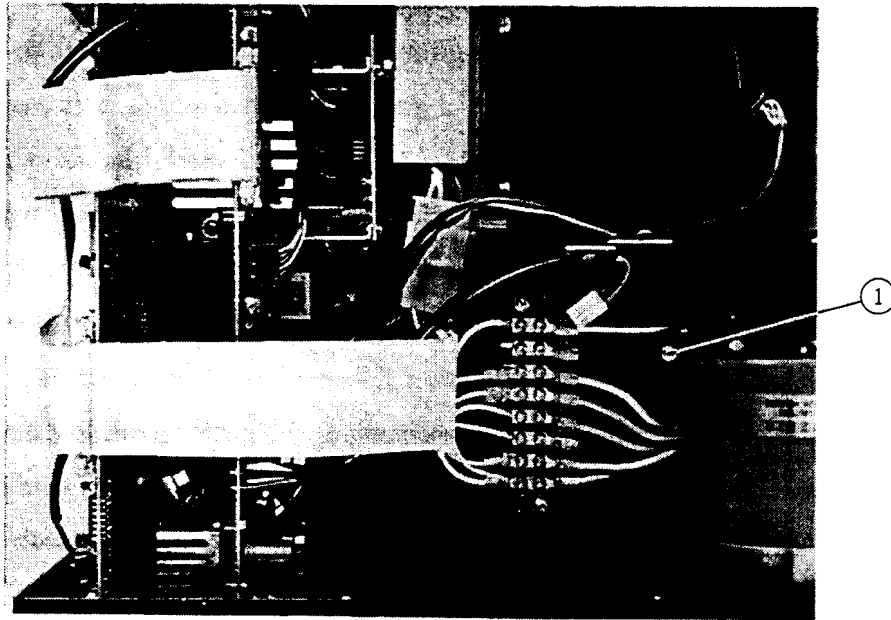
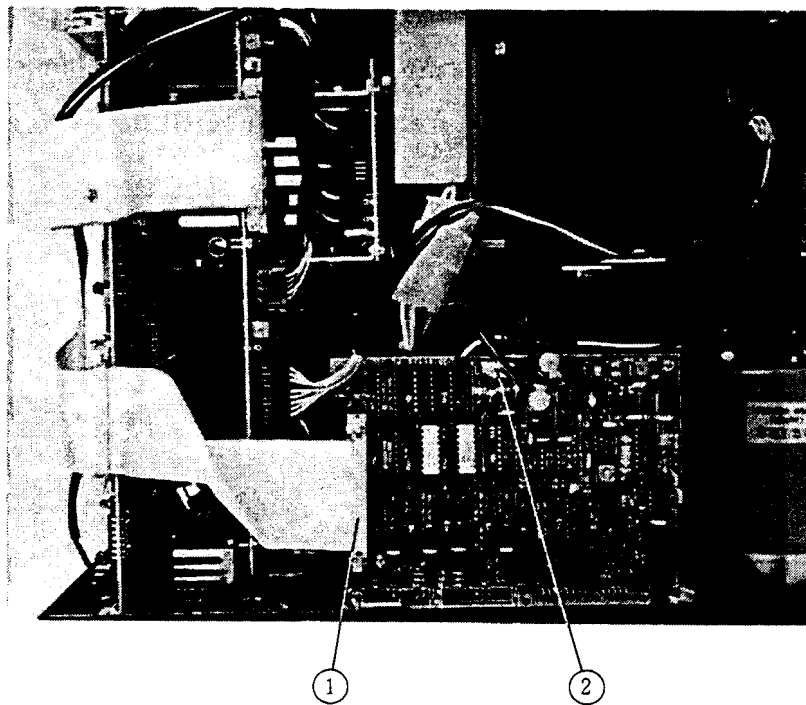

Fig. 7.2
Fig. 7.3
- (3) Remove the screw (① in **Fig. 7.2**) from the hexagon spacer in the unit.
- (4) Fasten the PC-30L interface board to the rear of the unit with the screws removed in step (2) above. Further, secure one end of the PCB to the hexagon spacer with the screw removed in step (3).
- (5) Connect the PCB connection flat cable (① in **Fig. 7.3**) in the unit positively to the connector J_A of the PC-30L interface board.
- (6) Disconnect the cord (② in **Fig. 7.3**) from the transformer cover at the upper part of the transformer, and connect the cord to the connector J_G of the PC-30L interface board.
- (7) Replace the cover of the LC-8A and stick the seal supplied with the interface board to an adequate location on the rear panel.